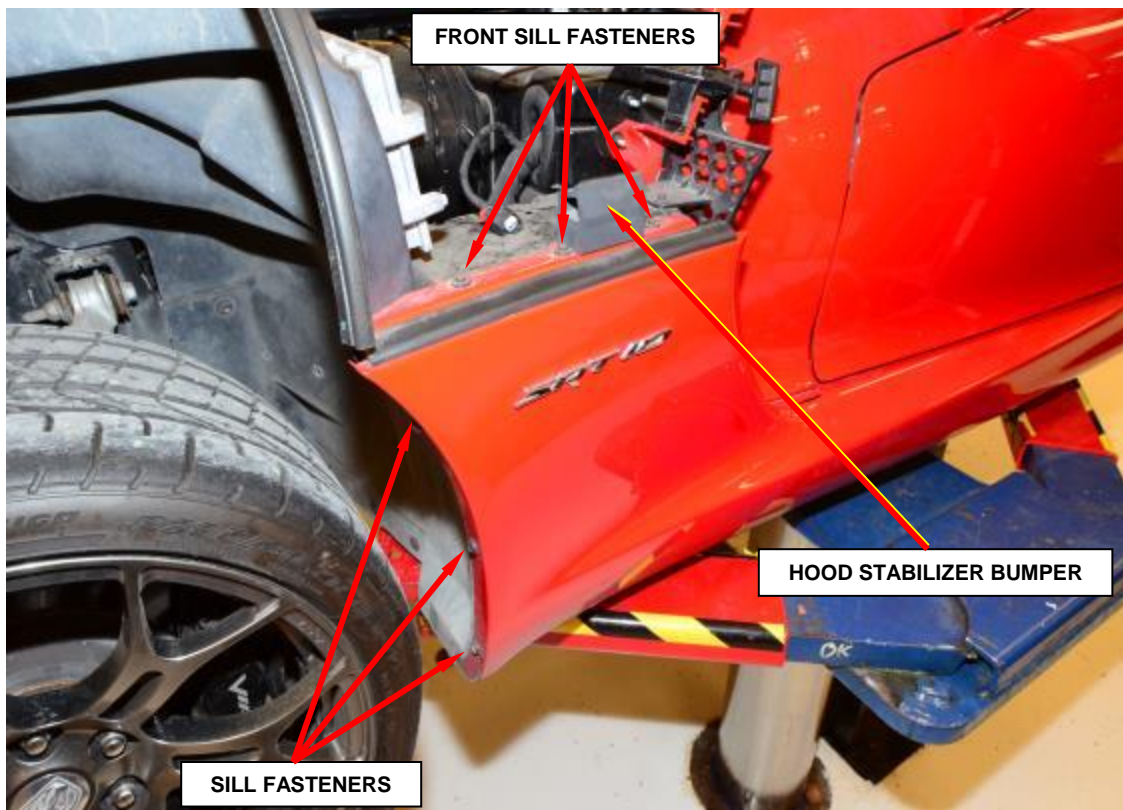

Figure 38 – Front Sill Fasteners
- n. Mark the location of the front sill fasteners, for proper alignment during installation the remove and save the three front sill fasteners (Figure 38).
- o. Remove and save the three front wheelhouse splash shield to sill fasteners (Figure 38).
- p. Remove and save the fastener from the hood stabilizer bumper (Figure 38).